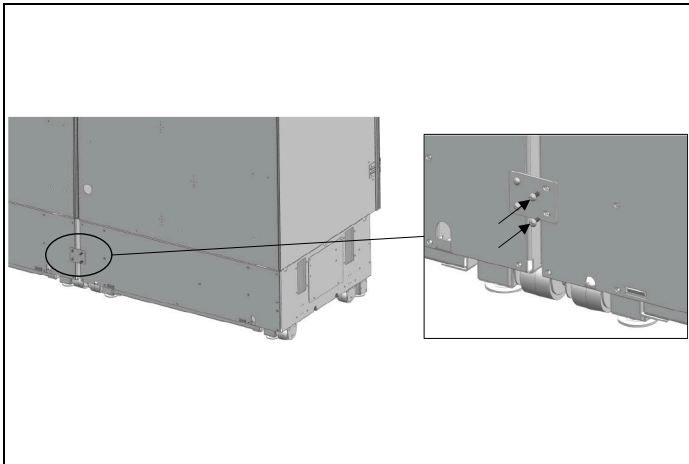
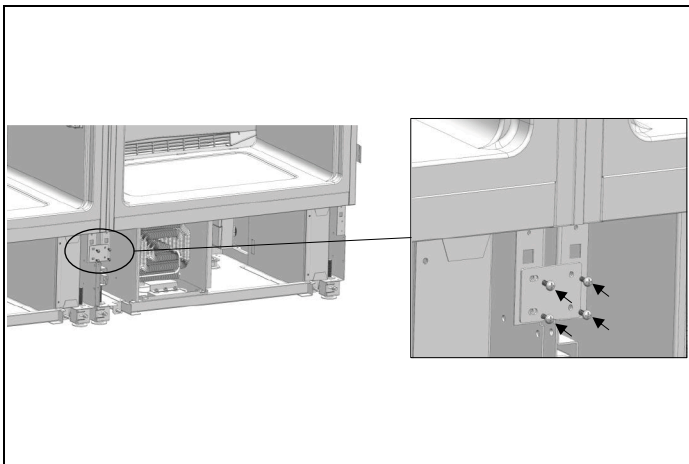

Fig. 111
Fig. 112
- Once the refrigerators are properly aligned, secure the connecting brackets at the back (Fig. 111) and the front (Fig. 112), joining the two refrigerators together.